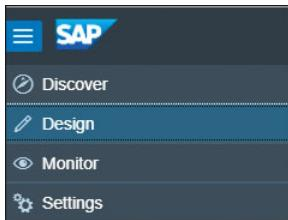

Figure 4.4 Switching to Design View
1. We'll first create a new package for our exercise. After you connect to your SAP Cloud Platform Integration tenant with your Internet browser, switch to the **Design** view (Figure 4.4).